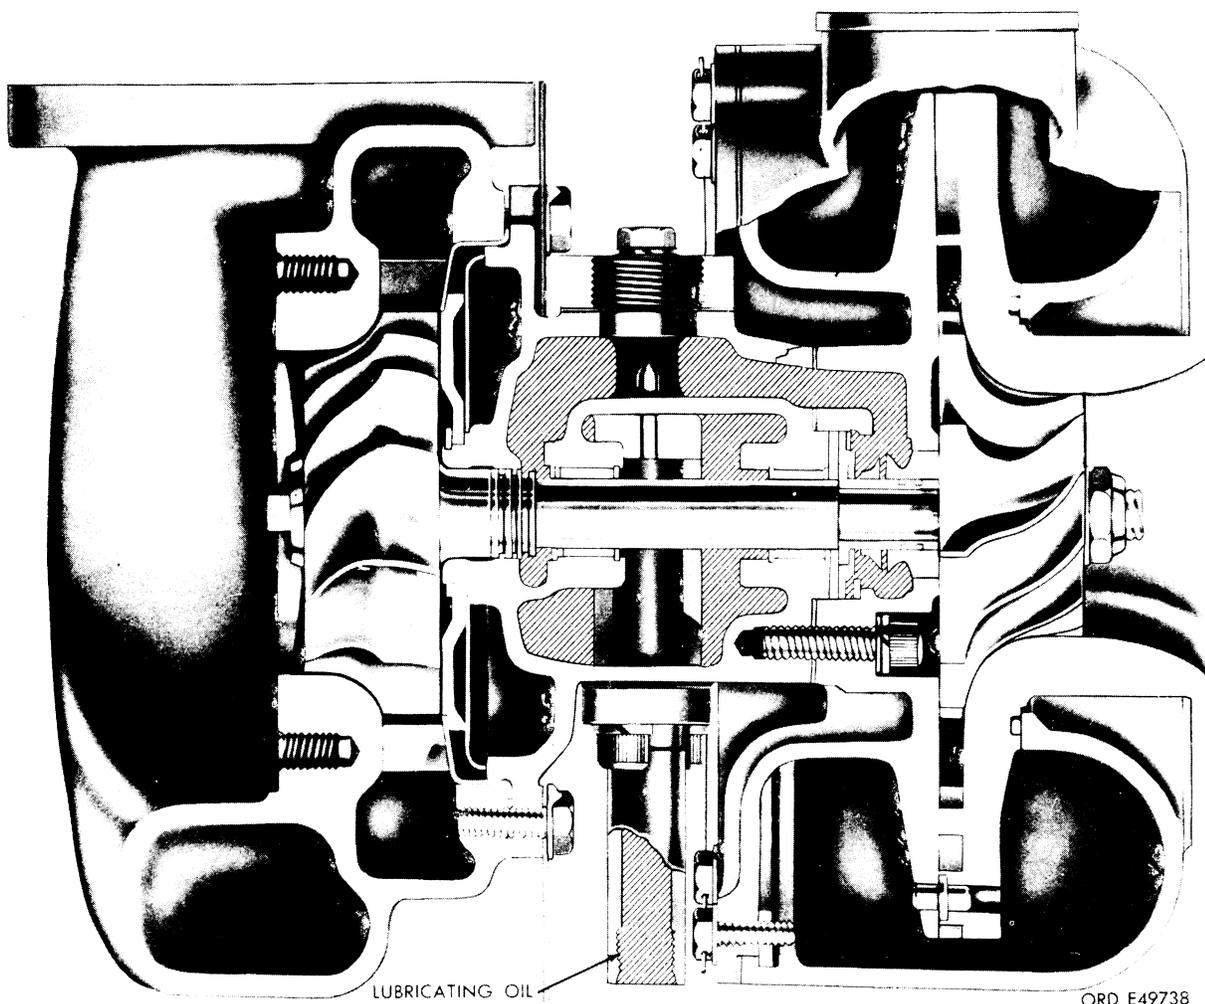

Figure 8. Typical turbocharger lubrication diagram.
c. Lubrication (fig. 8). Lubrication of the four models of turbochargers is basically the same. They are pressure lubricated from the engine lubricating system through external piping from the engine oil gallery to the turbocharger oil inlet. Oil flows into the bearing housing and then to the sleeve bearings and returns to the engine crankcase through an external line. On turbochargers 10912638 and 53591-C-139552, oil also flows directly to the thrust bearing. Two piston rings, located on the shaft and turbine wheel prevent oil from en-